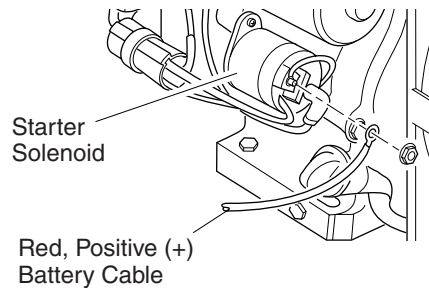

Figure 8 - Connecting Red, Positive (+) Battery Cable to Engine Starter Solenoid (Model MGH6500AIE Shown)
1. Attach the red, positive (+) battery cable to the starter solenoid on engine (see Figure 8). This cable is factory installed.